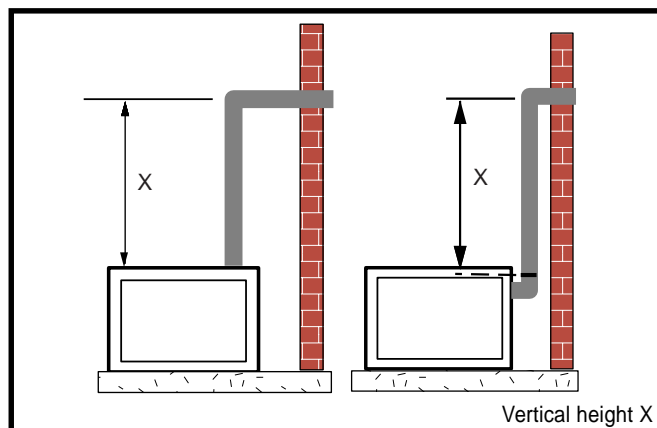

Fig. 27 Vertical height requirement
Place fireplace into position (Fig. 27). Measure the vertical height (X) required from the base of the flue collars to the center of the wall opening.